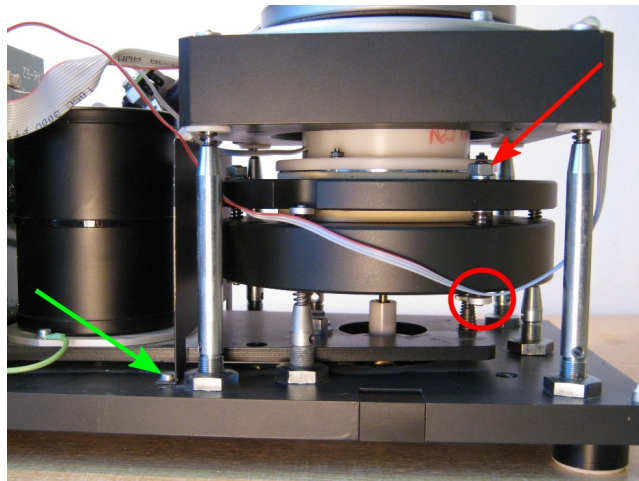

Figure 5: Three screws on round plate
- This procedure describes how to adjust distance between round plates. For first step, locate three nuts on upper round plate (red arrow in Fig. 5) and loose them a little.
- Turn with three screws (red circle in Fig. 5) to set correct distance between two round plates. Note that only one of three screws is marked.
- Remove vertical shielding plate between motor and mechanical system (green arrow in Fig. 5) due to access to third screw.